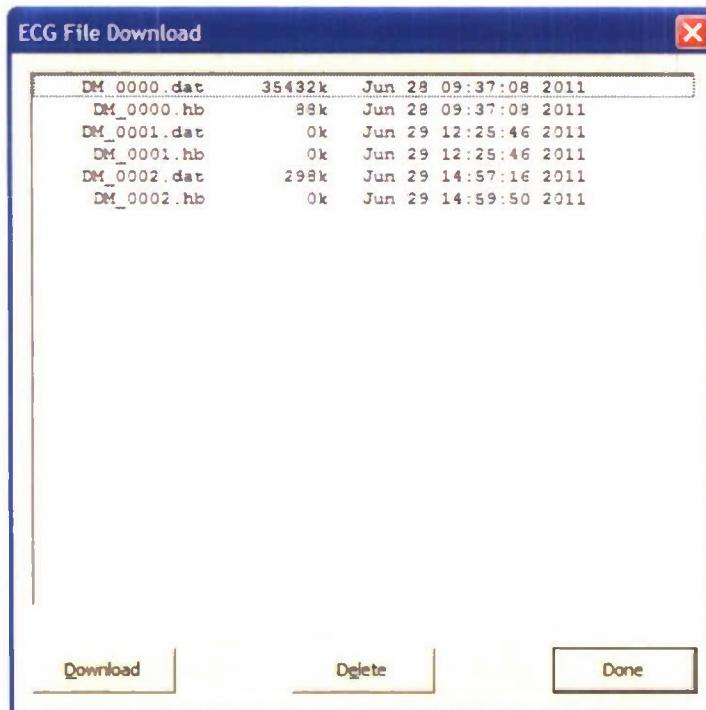

Figure 6. Dialog Box Used for Downloading or Deleting Data from the DHMS Sensor
Downloading Data. After completing a reecording session, the PC application can be used to download the data from the sensor. Simply choose the **Commands** menu item and select **File Download...** Figure 6 shows the dialog box the appears to allow the user to select which data files to download from the sensor. Note that similarly-named files appear in pairs. One pair of files is created for each recording session. The file with the .dat extension holds the raw ECG data, while the smaller file with the .hb extension holds the heartbeat and heart rate values. The user can select one or more files to download and then press the **Download** button at the bottom. The user can also delete files from the sensor using this dialog box. Since the downloading proeess uses the wireless interfaee, the download can take a lot of time (one hour to download four hours of raw ECG data). It is recommended that longer files be downloaded while the sensor is charging in its dock.
2. **Select Files to Download.** As shown earlier in Figure 6, the DHMS software presents a listing of all of the data files stored in nonvolatile memory on the DHMS sensor. Each recording session has a pair of files. The raw ECG data is stored in the .dat file and the heartbeat (and heart rate) data is stored in the .hb file. Select the file that you would like to download. Multiple files can be selected holding down the **Shift** key while clicking.